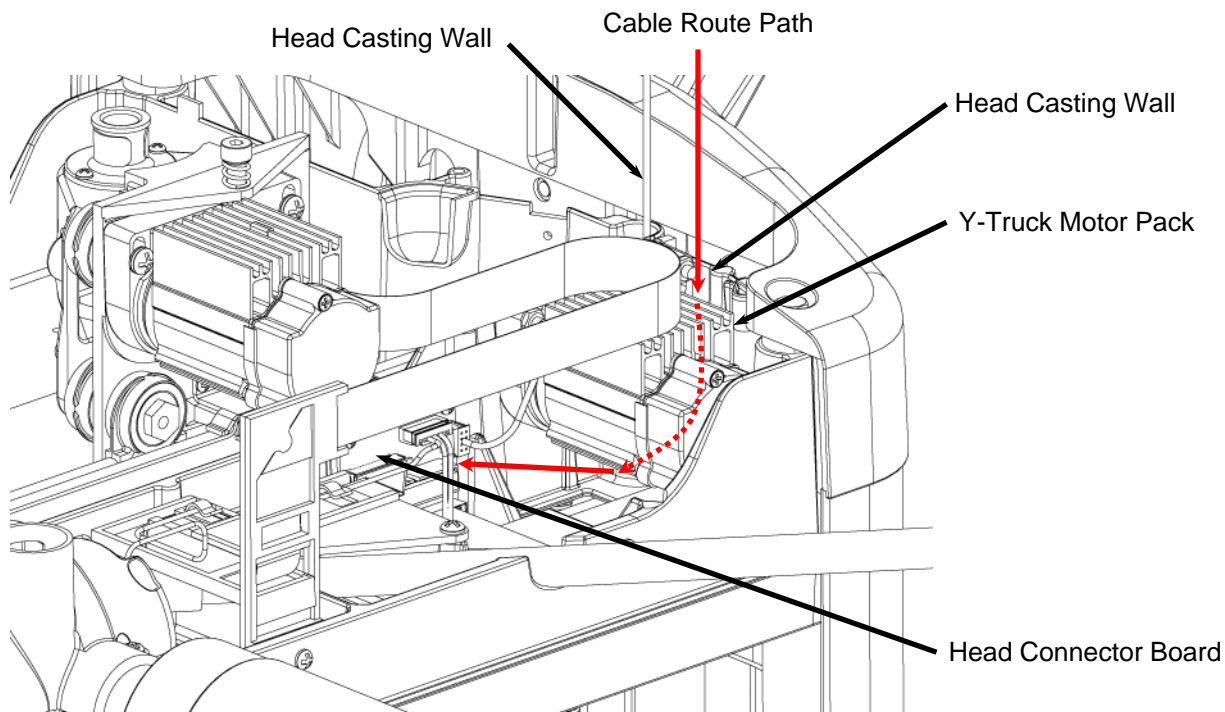

**FIGURE 18: PLACEMENT OF THE BLOW DEFLECTOR - ISO**
- a. Move the Y-truck all the way to the left side of the machine and make sure that the FFC cable does not drag on the Y-truck heatsink (See Figure 18). If the FFC cable is dragging bend it upwards so that it consistently clears the heatsink.